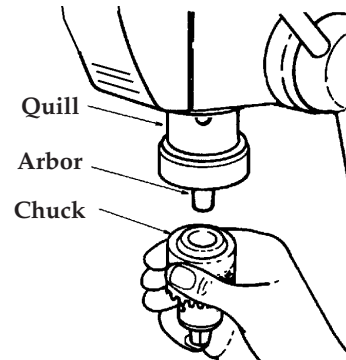

FIGURE 15
2. Slide the chuck up over the arbor as illustrated in Fig.15.